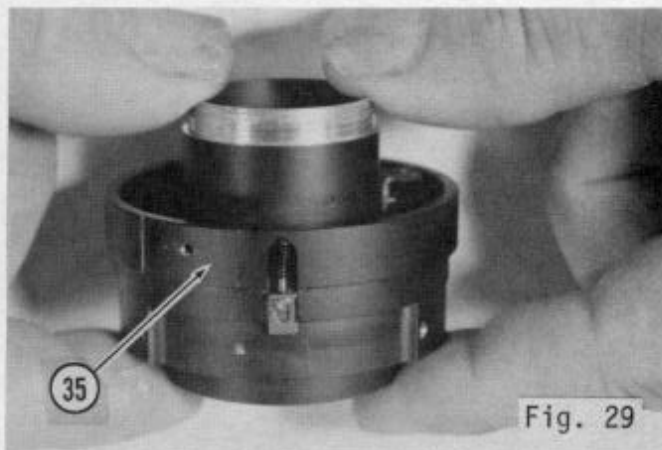

Fig. 29
- 4.2.4 Holding parts tightly together (as in Fig. 29), invert and place on workbench with Prime Lens Barrel down.